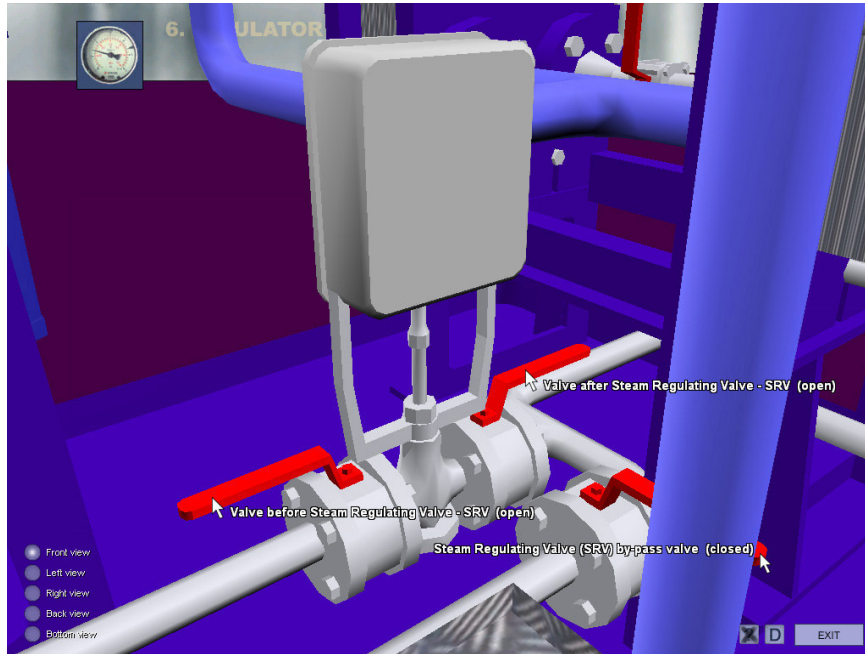

Fig. 22. Front view - Steam regulating valve - SRV - with by-pass
9. Open valves before and after the Steam regulating valve, check that the by-pass line is closed (fig. 22).